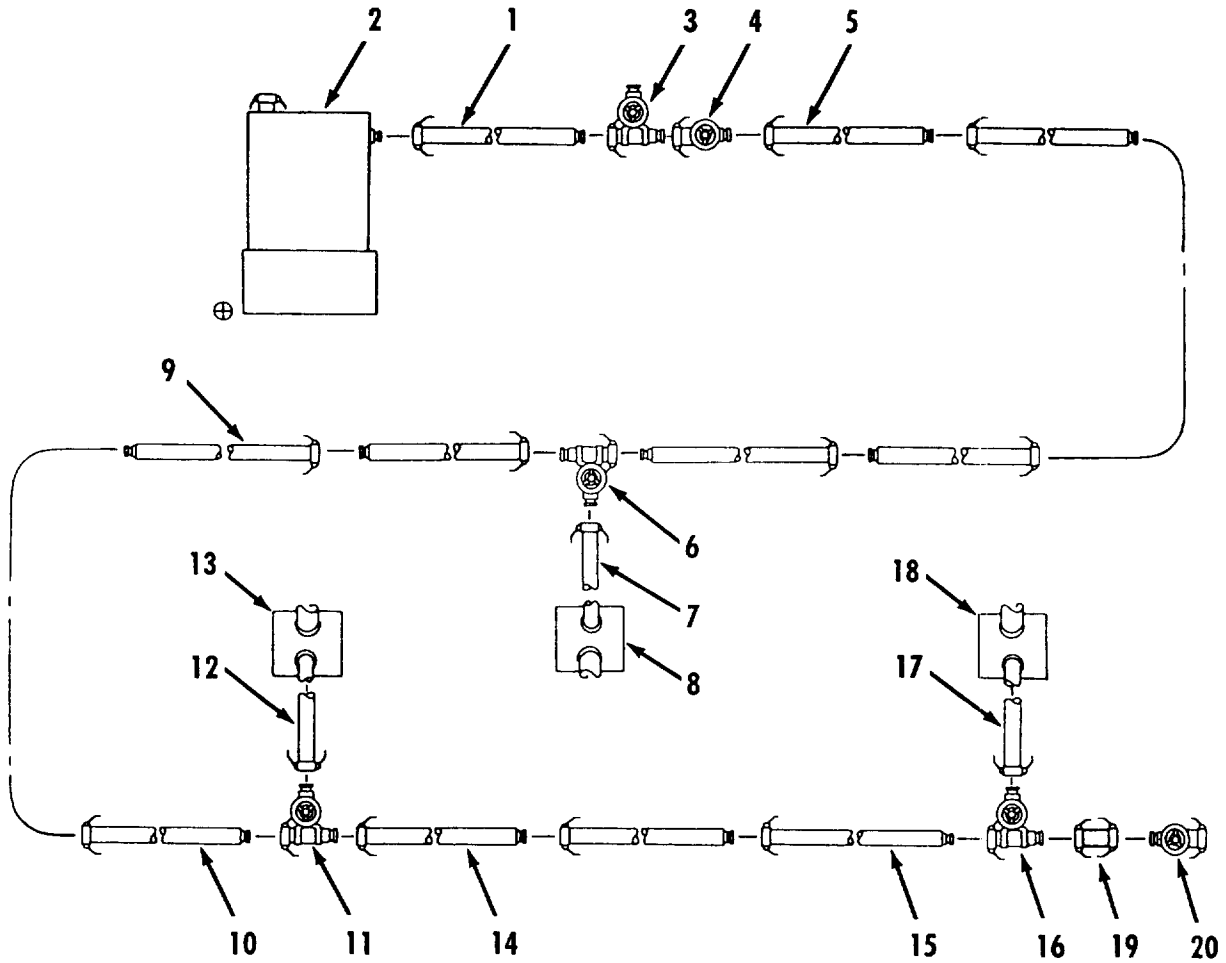

Figure 2-15. Fuel System - Primary 600 GPM Pump Output to Filler Hose of Fuel Tanks.
- g. Fuel System Primary 600 GPM Pump Output to Filler Hose of Fuel Tanks. Refer to figure 2-15.